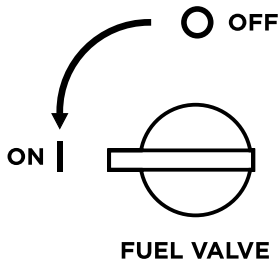

Figure 7 - Fuel Shut Off - ON
- ① 240/120V Main Circuit Breaker Operating Position
- ② 240/120V Main Circuit Breaker Tripped Position
- ③ 120V Circuit Breaker Operating Position
- ④ 120V Circuit Breaker Tripped Position
4. Move the fuel shut off valve to the **ON** position (see Figure 7 below).